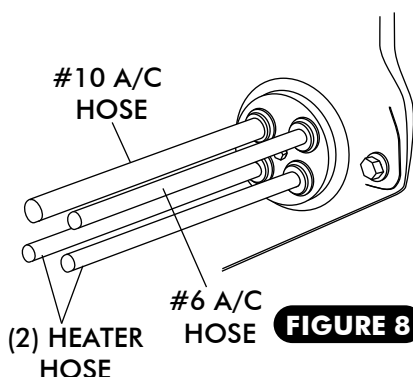

FIGURE 8
- ☐ ROUTE A/C AND HEATER HOSE THROUGH FRESH AIR CAP AND KICK PANEL FRESH AIR CAP AS SHOWN IN FIGURE 8 AND 8b, BELOW.